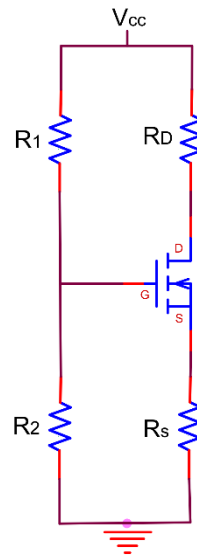

Figure 10.5
- Construct the circuit in Figure 10.5 using the resistor values calculated in the pre-lab. Measure and record I_D by measuring the voltage across R_D . Measure and record V_{DS} . Compare your measured Q point to the one used in the pre-lab.